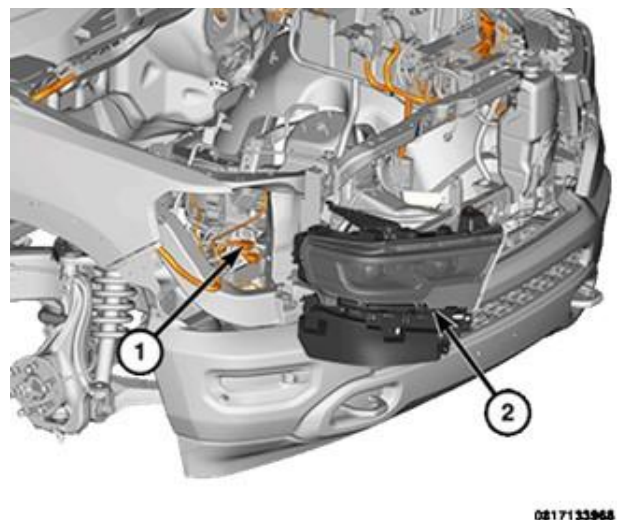

Figure C14 – Headlamp Assembly
20. Remove the headlamp unit and disconnect the wire harness connectors (Figure C14).
23. Connect the wire harness connectors to the **NEW** headlamp (Figure C14).